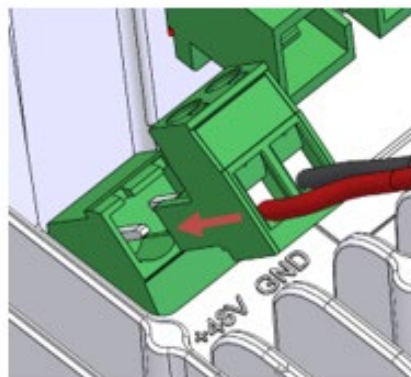
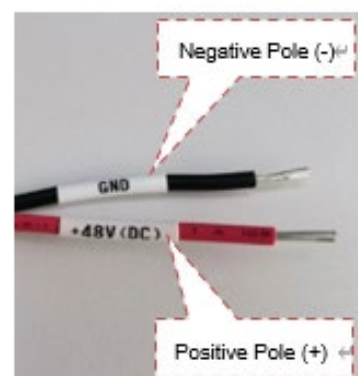

Figure 3-37
Figure 3-38
1. Insert power line plug into socket (Figure 3-37), red wire is positive, black wire is negative. (Figure 3-38)